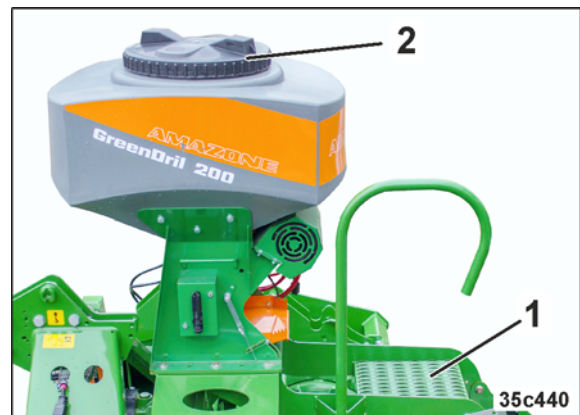

Fig. 140
3. To fill and adjust the GreenDrill, use the existing loading board (Fig. 140/1).
4. The seed hopper cover has a threaded seal (Fig. 140/2).